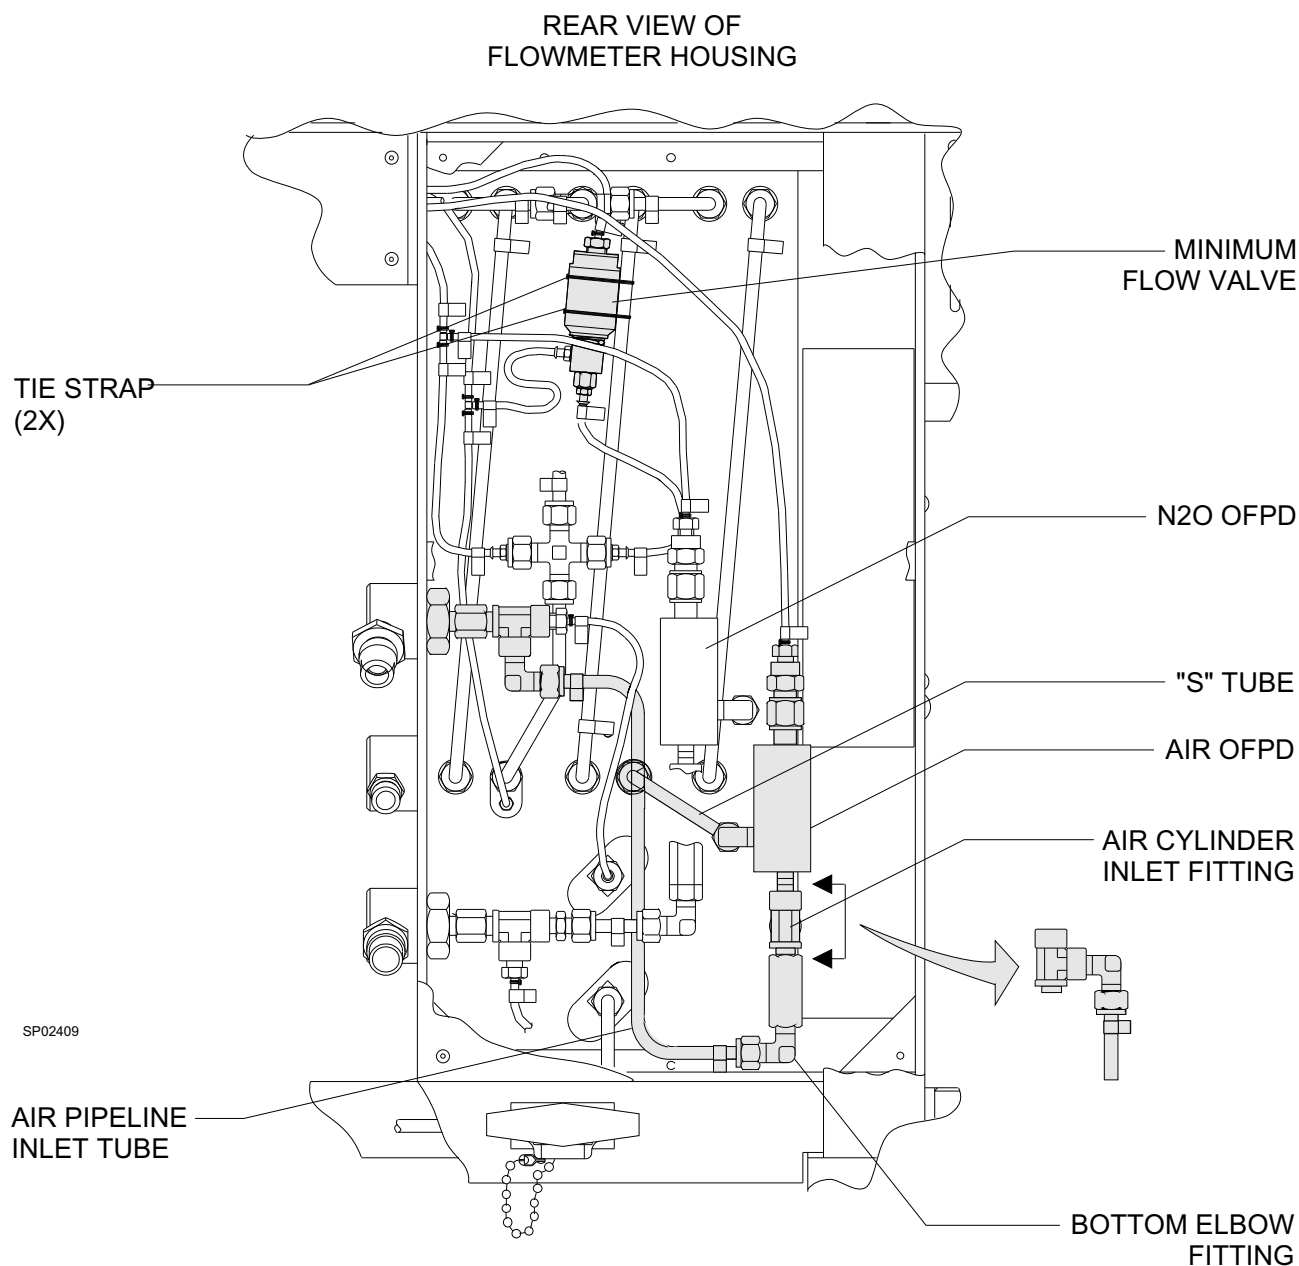

Figure 9: AIR OFPD AND MINIMUM FLOW VALVE INSTALLATION
49. Connect a ¼ in.dia. (P/N 4110836-004) "S" tube to the air flowmeter inlet. See Figure 9.
51. Connect the tube from the air cylinder pressure regulator to the elbow fitting directly under the air OFPD and facing the front of the machine as shown in Figure 9.
| <p>52. Install a ¼ in.dia. (P/N 4108688) pre-bent tube between the pipeline inlet assembly and the bottom elbow fitting on the air OFPD as shown in Figure 9. Install a AIR label on each end of this tube.</p> <p>53. Position the N₂O OFPD assembly in the flowmeter housing, and connect the side fitting of the OFPD assembly to the tube leading to the ORMC assembly inlet in the vapor box (or to the flowmeter inlet if machine is equipped with an ORM assembly).</p> | <p>54. Connect the tube from the N₂O regulator to the fitting at a 45° angle directly under the N₂O OFPD.</p> <p>55. Connect the tube from the N₂O pipeline inlet assembly to the bottom fitting on the N₂O OFPD assembly. Tighten all N₂O OFPD fittings.</p> <p>56. Attach the minimum flow cutoff valve to the air flowmeter "U" tube with two tie straps as shown in Figure 9.</p> |